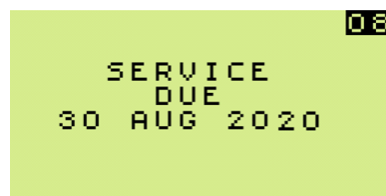

Figure 11: Service Due Date
3. Service Due enabled - if overdue, message is displayed as shown in Figure 11: Service Due Date, but after five seconds, the monitor warm-up continues automatically.